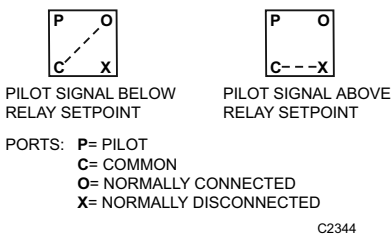

Fig. 34. Relay Port Connections.
In the following illustrations, common (C) and the normally connected port (O) are connected on a fall in pilot pressure (P) below the relay setpoint, and the normally disconnected port (X) is blocked (Fig. 34). On a rise in pilot pressure above the relay setpoint, C and X are connected and O is blocked.